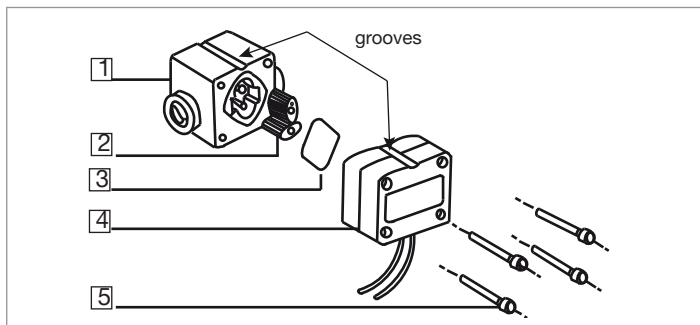

Fig. 6 Exploded view of the device
- Unscrew the 4 screws (mark 5 Fig. 6) and remove the cover including the electronic module (mark 4 Fig. 6).
- Remove the seal (mark 3 Fig. 6).
- Remove the rotors (mark 2 Fig. 6).
→ Put the seal (mark 3 Fig. 6) in its groove.
→ Put the cover (mark 4 Fig. 6) on the housing, aligning the groove on the cover with the one of the housing.
→ Tighten the 4 screws (mark 5 Fig. 6), carefully to avoid damages to the housing, and in an alternating pattern at the following torque: